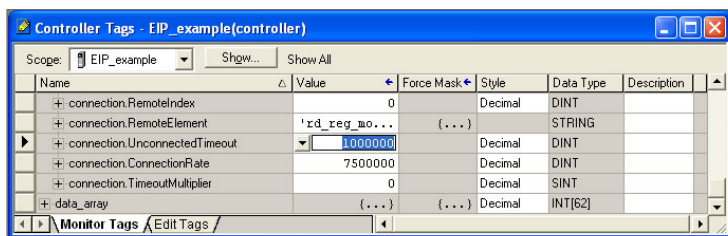

Figure 94: Reduce the UnconnectedTimeout Value
- e) Select the "Monitor Tags" tab. Expand the "connection" tag by clicking on the "+" sign next to the tag name. Scroll down to the connection.UnconnectedTimeout field and change its value from the default 30000000 (30s in 1uS increments) to 1000000 (1s). This value determines how long to wait before timing out and retransmitting a connection request if a connection failure occurs. Refer to Figure 94.